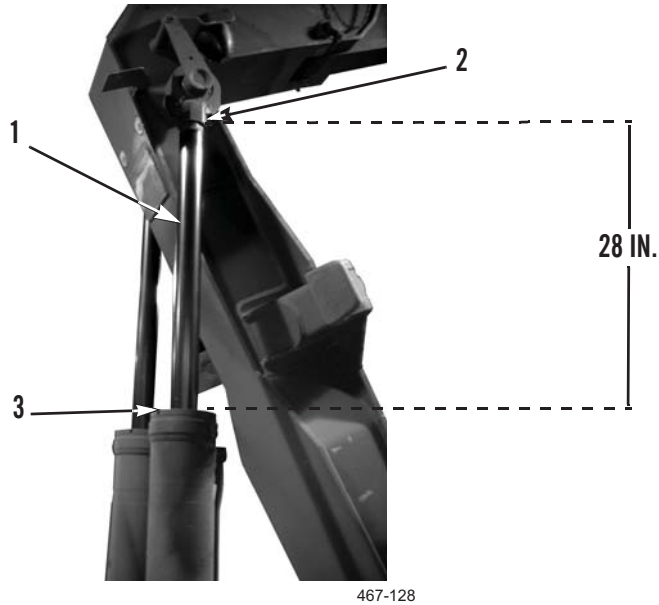

Figure 52. Hook Arm Cylinder Extension.
1. With MODE switch set to AUTO position, partially extend hook arm (PLS: TM 9-2320-364-14&P, HEMTT: TM 9-2320-326-14&P) until cylinder arm (Figure 52, Item 1) is extended 28 in. (750 mm) measured from base of cylinder arm cap (Figure 52, Item 2) to top of cylinder casing (Figure 52, Item 3).